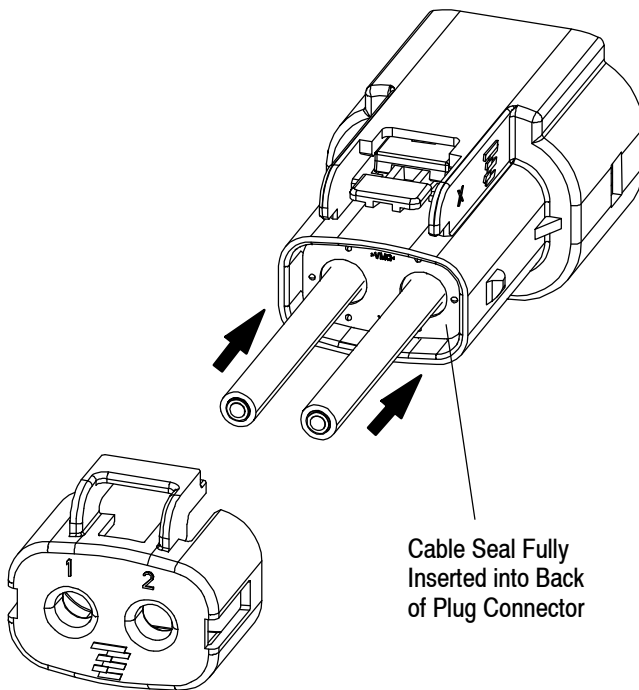

Figure 14
3. Fully insert the cable seal as shown in Figure 14 until it stops inside the back of the plug connector outer housing.